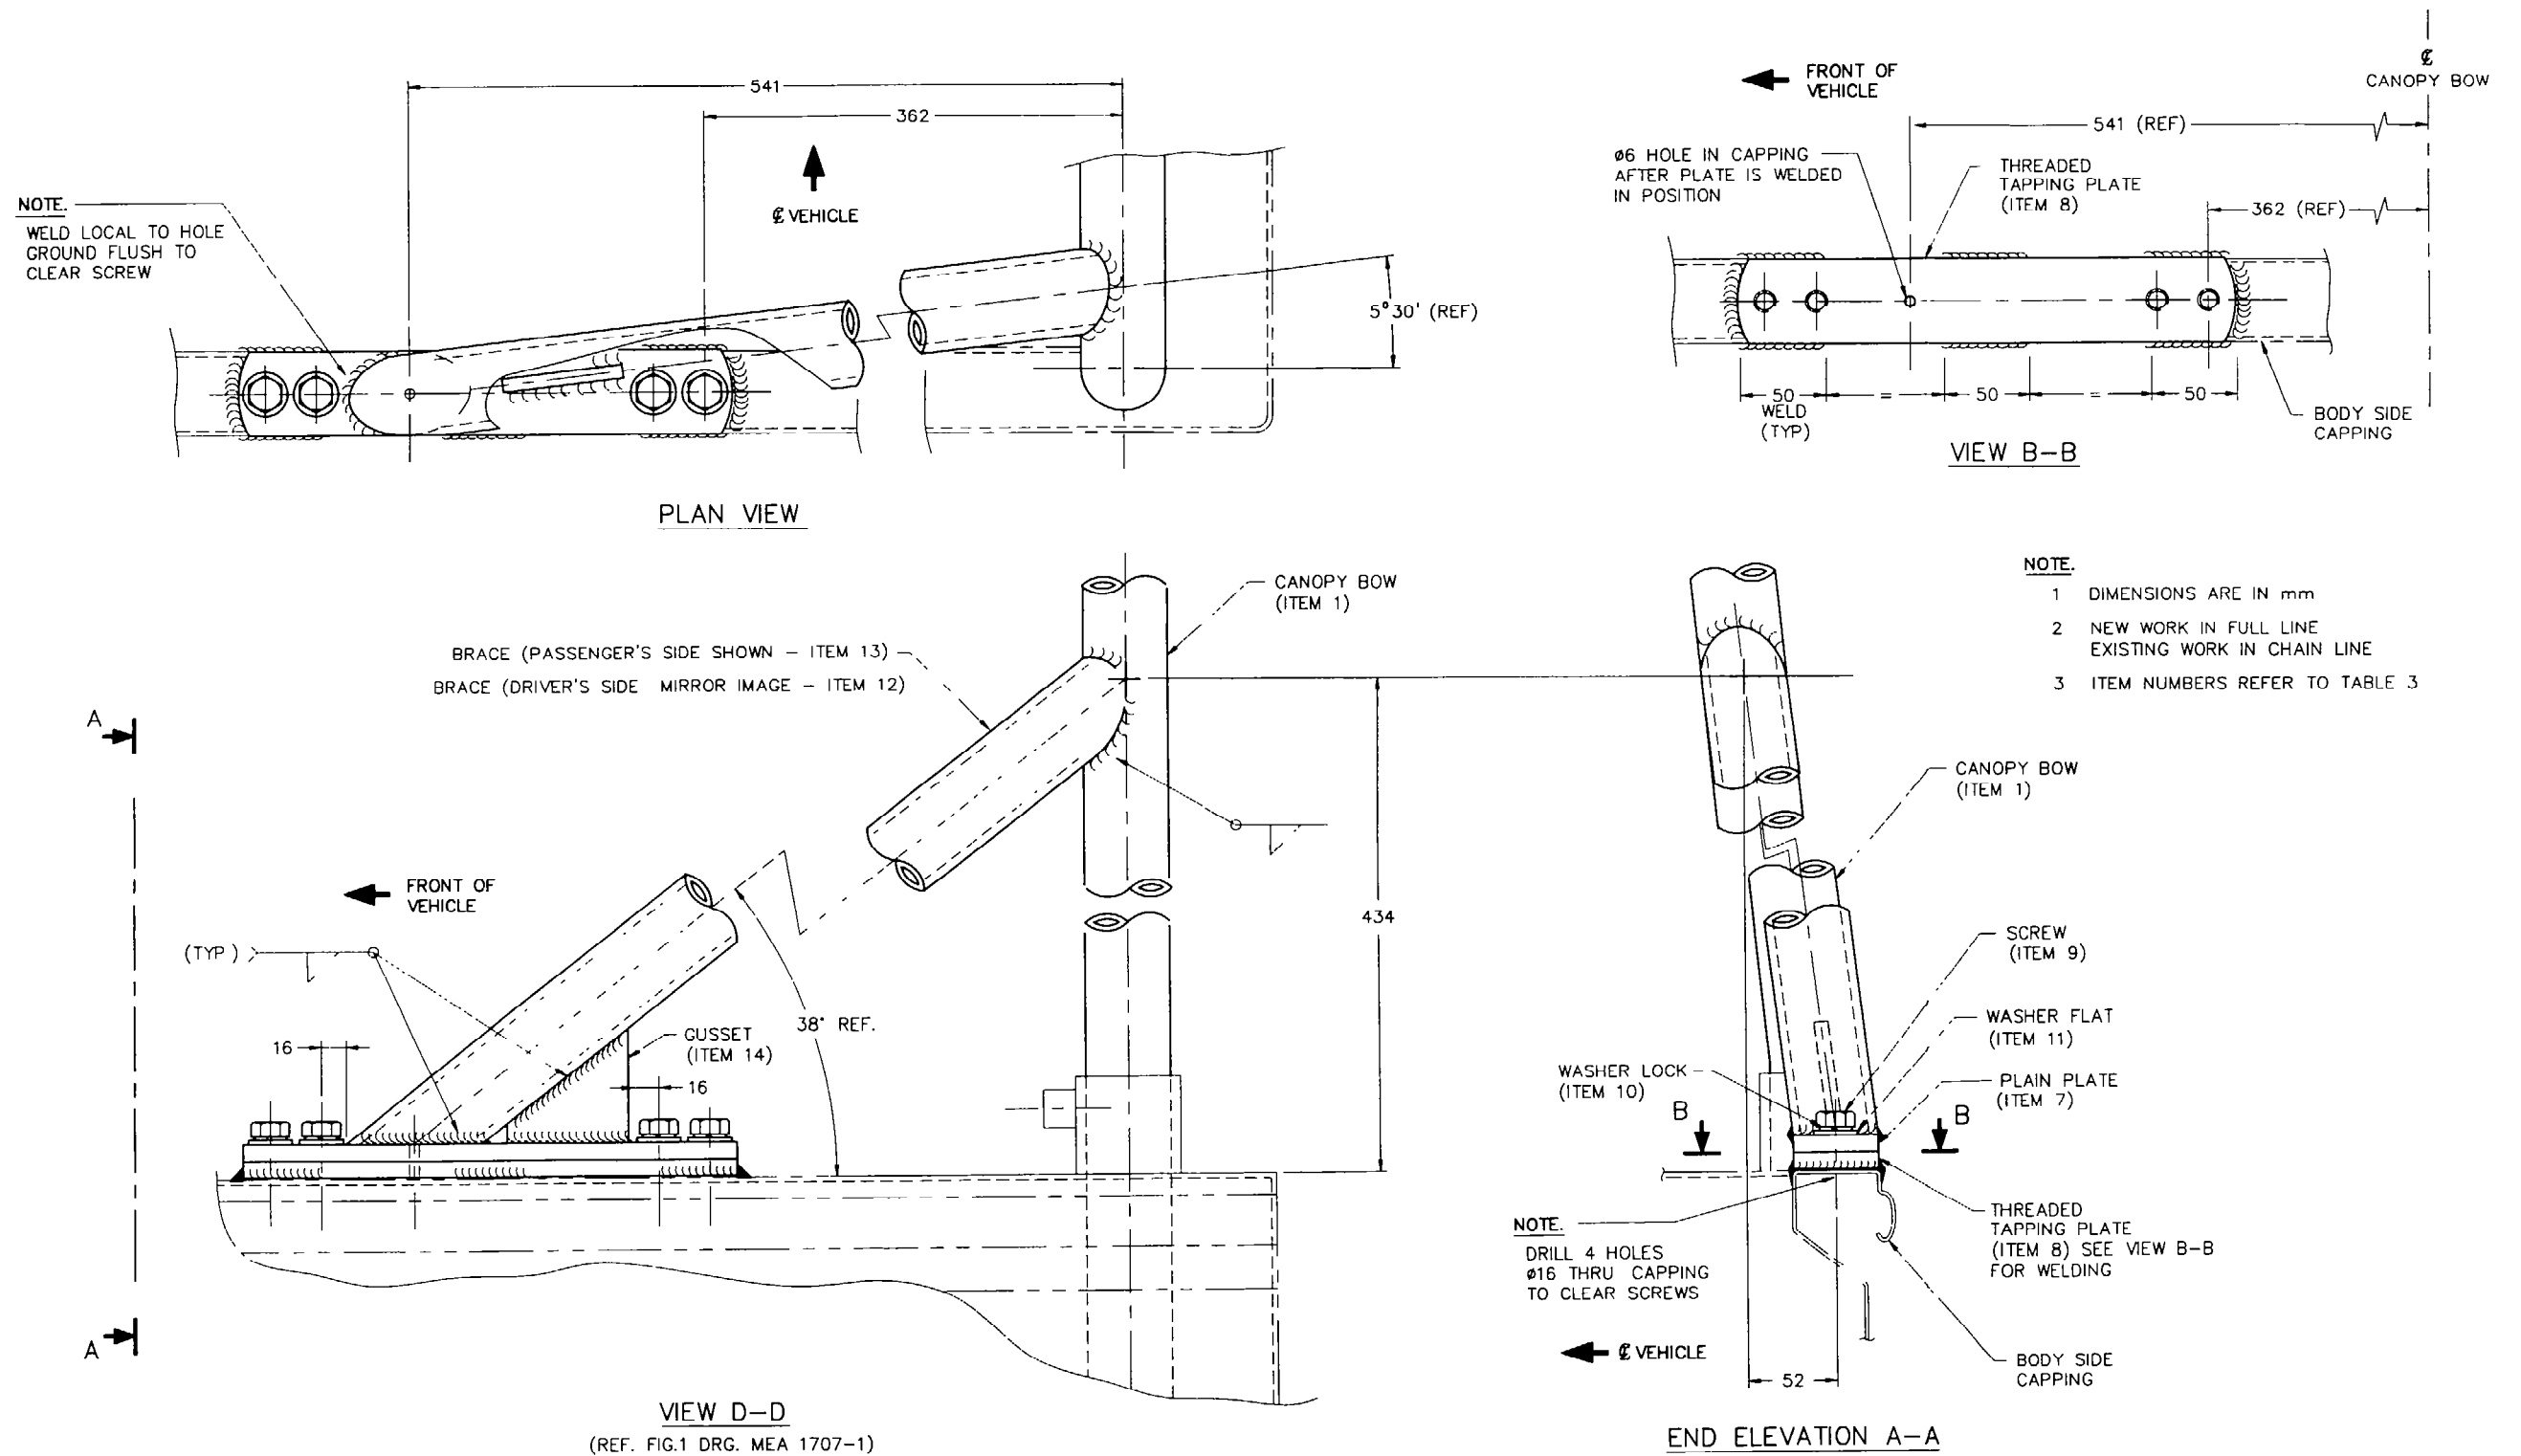

Figure 2 - Rear Canopy Bow Support Braces
14. Proceed as follows with reference to Figure 2 for assembly detail and Table 3 for part descriptions:
- a. Using the plain plates (item 7) as a template position the plates on the capping so that the rear plate holes are 362 mm from the rear canopy bow centre. Mark and drill four 16 mm holes in the body capping.
- b. Assemble the threaded capping plates (item 8) to the plain capping plates using bolts and washers (items 9, 10, 11).
- c. Position the capping plates and braces to obtain a flush fitting of the braces (items 12, 13) to the rear canopy bow and upper capping plate and ensuring a 16 mm clearance from pipe end to bolt centre is achieved.
- g. Position the gusset (item 14) centrally to both braces and the upper plate, ensuring that the bolts can be accessed with a ring spanner and tack gussets in position.